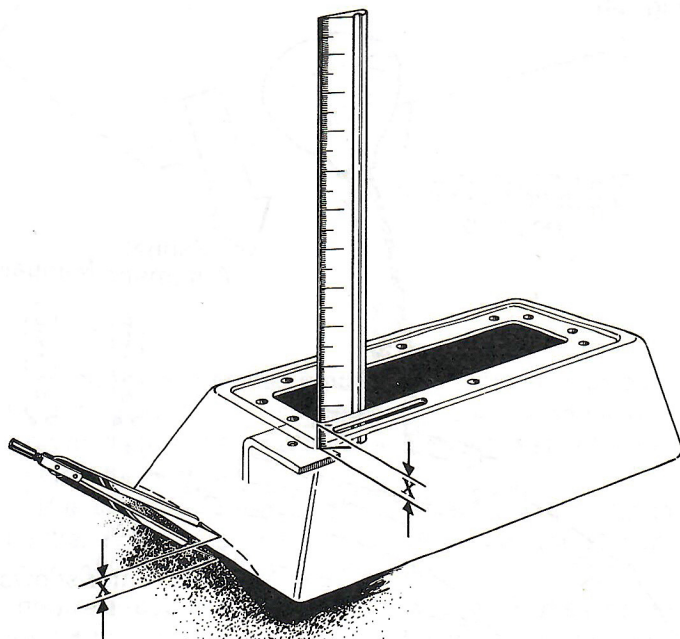

FIG. 10
Step 24. Place tower over shifter mechanism until the bottom edge of the tower touches the floor of the vehicle. Hold the tower level to the shifter with the bottom of the tower touching the highest surface of the floor it will come in contact with (See Fig. 10) Use a ruler to measure the distance X from the underside of the tower to the tower mounting surface on the shifter mechanism.
Step 25. Set a pair of dividers at the distance X, measured in Step 24. Hold the tower in position over the shifter mechanism. Hold the tower level to the mechanism with the bottom of the tower touching the highest surface of the floor it will come in contact with. Holding the tower in position, hold the dividers vertically so one end touches the floor and the other end touches the tower. (See Fig. 10) Scribe a line around the tower that follows the contour of the floorboard, using the dividers. Remove the tower and trim it at the scribe line using tin snips or cutters.